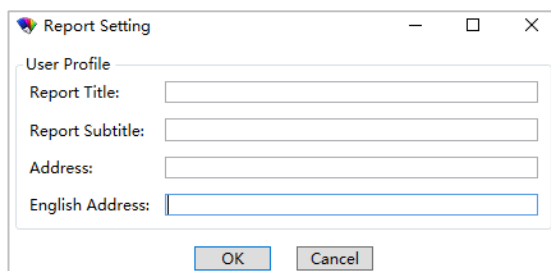

Figure 40: OnShade report setting options
1. From the menu select “Setting”>“Report Setting” to open the setting window (Figure 40).